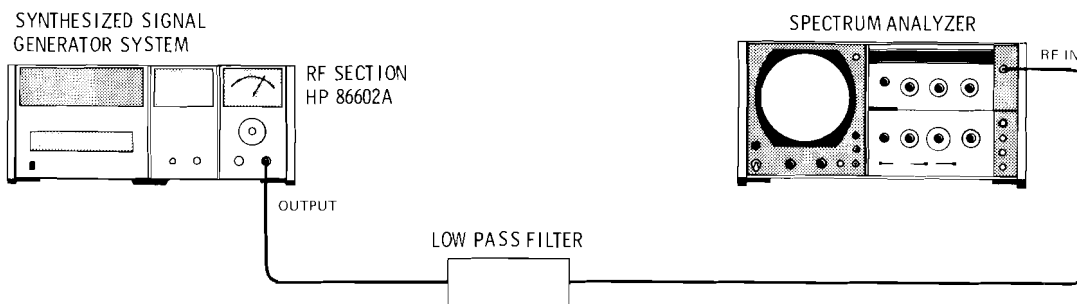

Figure 4-15. Wideband Spurious Signal Test Setup
1. Connect equipment as illustrated in Figure 4-15.